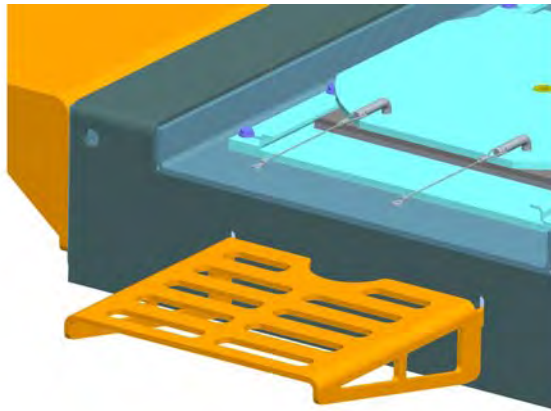

Figure 26 – Position Movable Workstep
3. Position the moveable workstep in the desired location. There are slots along the span of each runway where the workstep can be mounted. When not in use, the workstep can be stored under the front section of the runway. (See **Figure 26**)